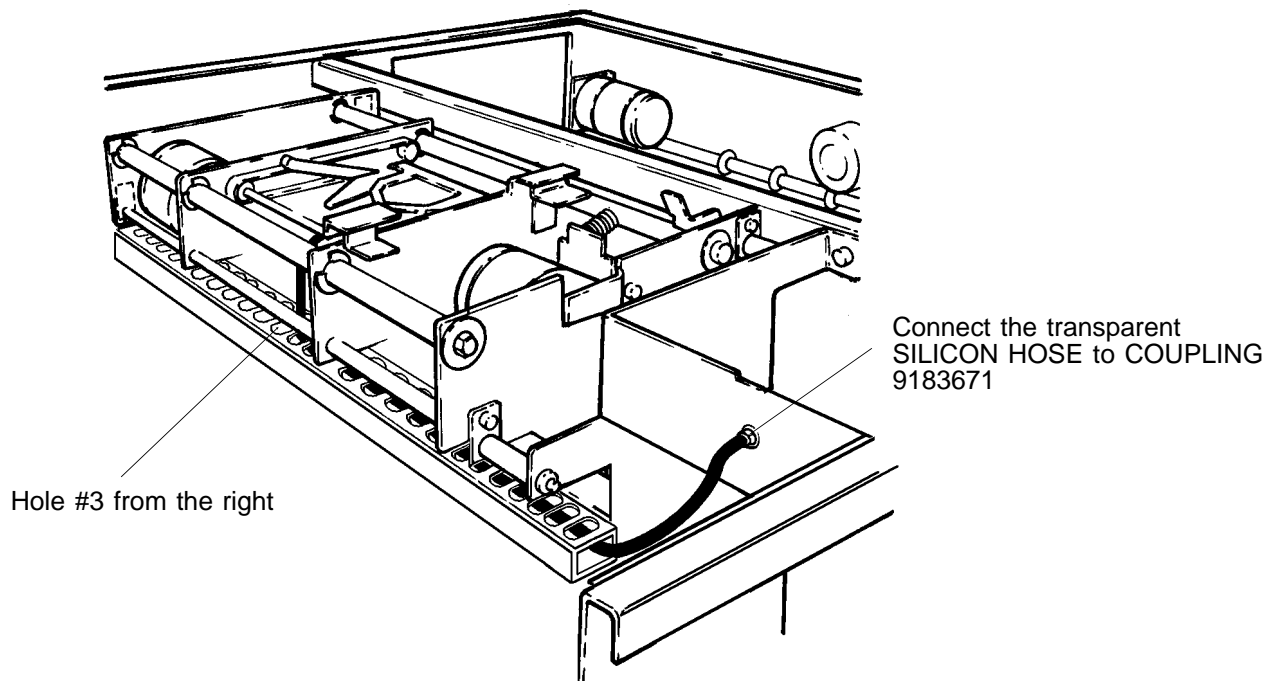

figure 9
34. Connect the SILICON HOSE to COUPLING 9183671. See figure 9.